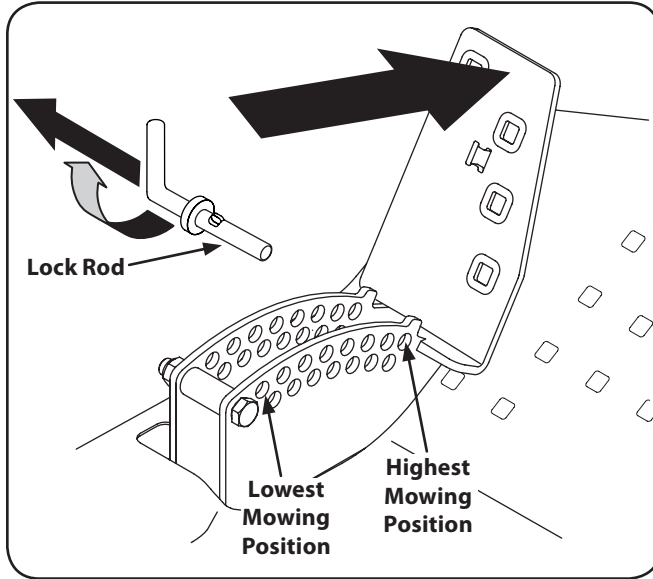

Figure 7-3
2. Place the deck lift pedal in the lowest mowing position and replace the lock pin in front of pedal in the deck height bracket and secure by locking the lock pin. See Figure 7-3.
1. Place the deck lift pedal in the highest mowing position and secure it by placing the click pin behind the pedal. Refer to Figure 7-3.